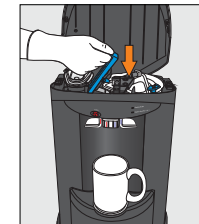

Figure 39
14. Close the locking clip to secure water outlet tubing in place (Figure 39)